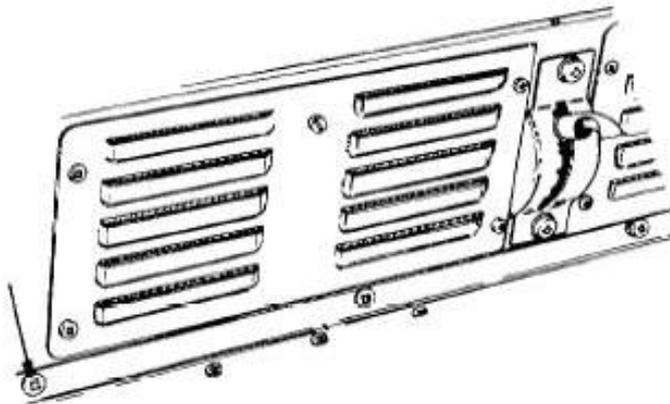

Figure 336 Removal of the Upper Crash Pad
- f. Remove the screws securing the upper crash pad to the firewall and the fascia support panel (Figure 336). Remove the support panel.